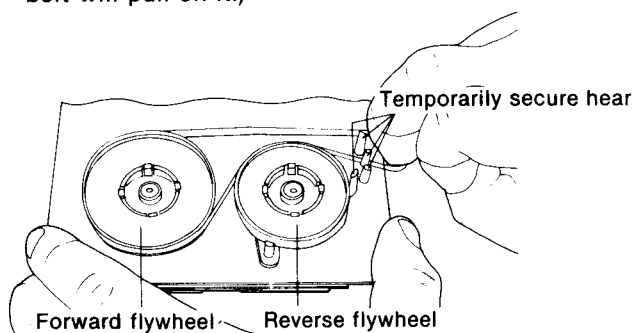

Fig. 6
- Attach the flat belt to the forward flywheel. Then attach it to the reverse flywheel and then temporarily secure it to the base where the round belt is secured. (Fig. 6)